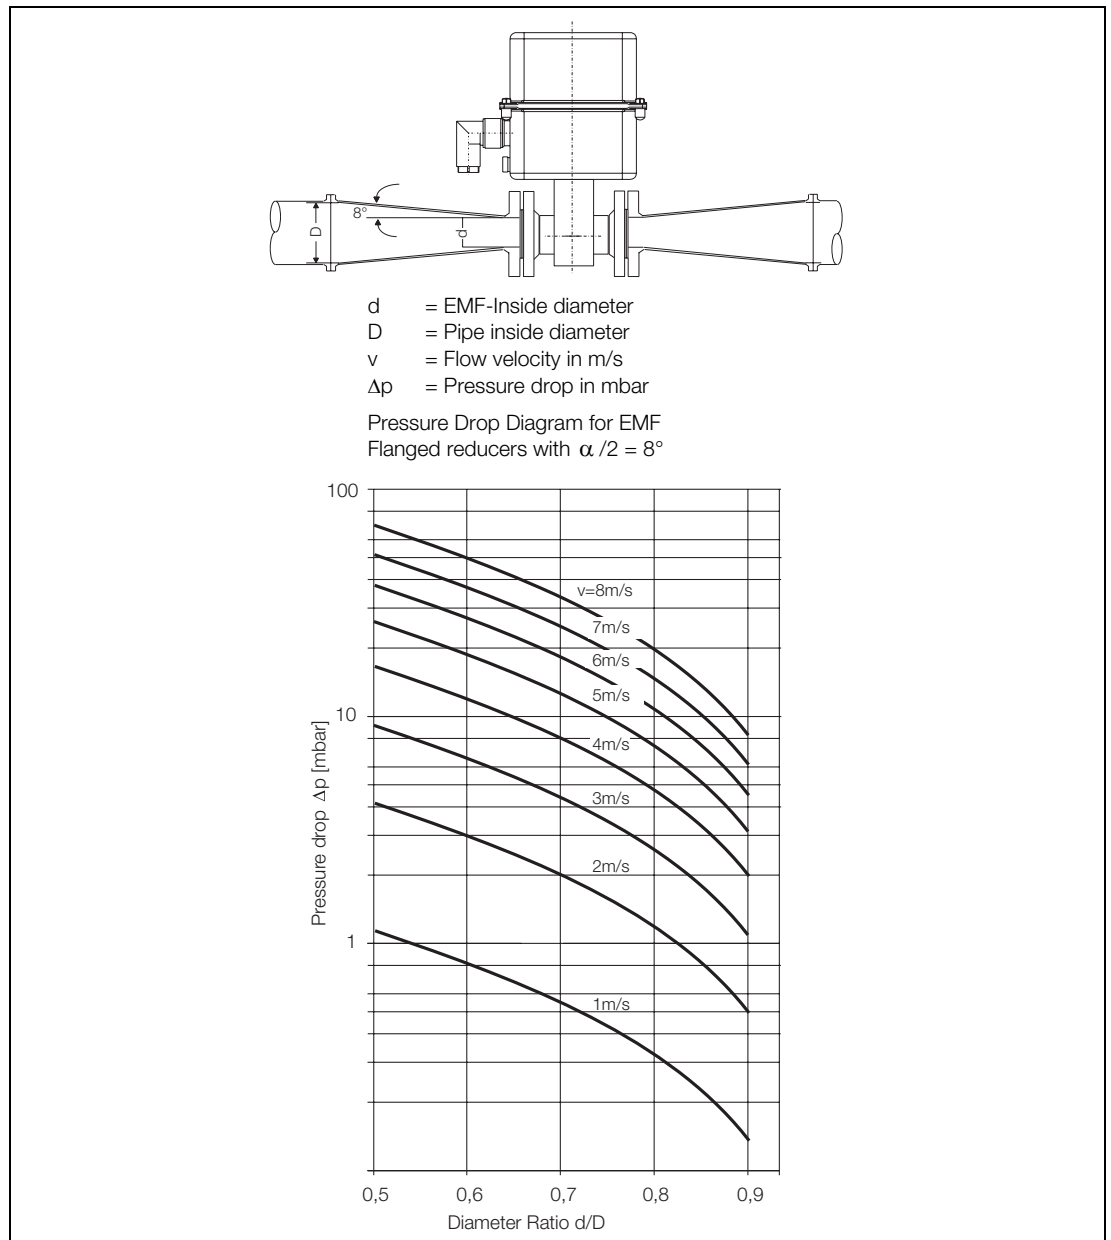

Fig. 10: Nomograph for Pressure Drop Determination
The flowmeter can readily be installed in larger size pipe lines by using of reducers. The pressure drop resulting from the reduction (e.g. flanged reducers per DIN EN 545) can be determined from the Nomograph Fig. 10 using the following procedure:
3. The pressure drop can be read on the -Y- axis at the intersection of the flow velocity curve and the "Diameter Ratio d/D " value on -X- axis in Fig. 10.